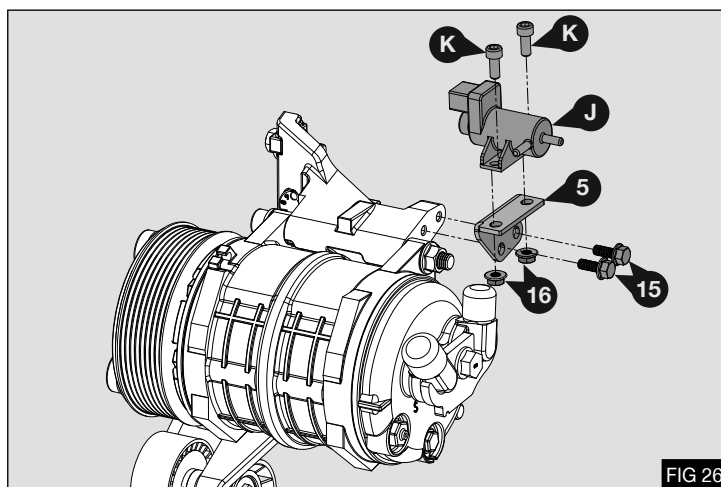

FIG 26
1. Fit vacuum solenoid bracket (5) to mount bracket (1) using M6 x 16 flange bolts (15) Secure vacuum solenoid (J) to bracket (5) using original cap head screws (K) with nuts (16). Re-connect wiring harness to solenoid - Fig 26